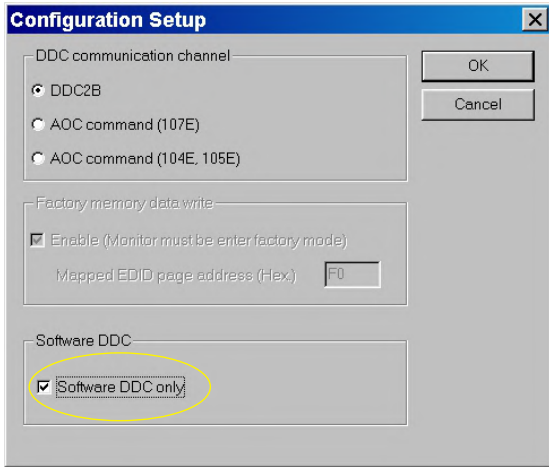

Fig. 16
1. Click icon from the tool bar to bring up the Configuration Setup windows again. Then, select "Software DDC only" as shown in Fig. 16. Click "OK".
4. Access "Factory Mode" and enable "Software DDC only" as shown in Fig. 17 & Fig. 16.